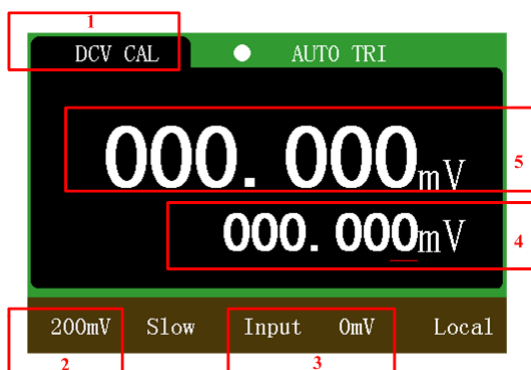

Figure 8-1 Calibration interface
1. Enter 0mV according to the prompt of zone 3 in Figure 8-1. Press Enter key after the measured value in area 5 is stable.
2. Enter -200mV according to the prompt of zone 3 in Figure 8-1. Press Enter key after the measured value is stable.
3. Enter 200mV according to the prompt of zone 3 in Figure 8-1. Press Enter key after the measured value is stable.
1. Enter 0V according to the prompt of zone 3 in Figure 8-1. Press Enter key after the measured value in area 5 is stable.
2. Enter -0.5V according to the prompt of zone 3 in Figure 8-1. Press Enter key after the measured value is stable.
3. Enter -1V according to the prompt of zone 3 in Figure 8-1. Press Enter key after the measured
4. Enter -1.6V according to the prompt of zone 3 in Figure 8-1. Press Enter key after the measured value is stable.
5. Enter -2.2V according to the prompt of zone 3 in Figure 8-1. Press Enter key after the measured value is stable.
6. Enter 2V according to the prompt of zone 3 in Figure 8-1. Press Enter key after the measured value is stable.
2. Enter 20V according to the prompt of zone 3 in Figure 8-1. Press Enter key after the measured value is stable.
2. Enter 200V according to the prompt of zone 3 in Figure 8-1. Press Enter key after the measured value is stable.
2. Enter 1000V according to the prompt of zone 3 in Figure 8-1. Press Enter key after the measured value is stable.